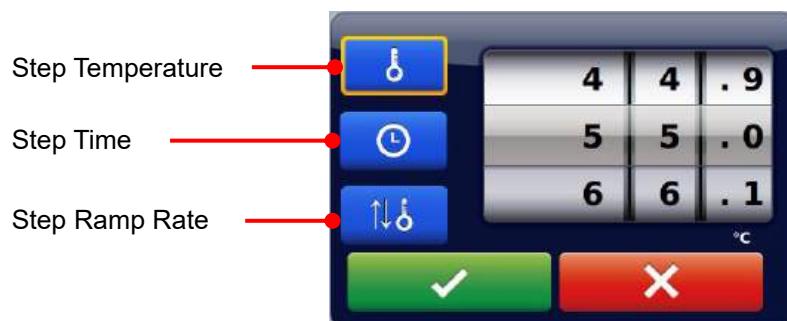

Figure 13. Temperature/Time/Ramp rate setting
1. To select the **Step**, tap on the step segment. The selected **Step** will be highlighted and the **Step Temperature, Time and Ramp Rate**  will be displayed. Tap on  and a spinning wheel will pop up as shown in Figure 13, allowing you to modify the **Step Temperature, Step Time, or Step Ramp Rate**.
If a **Stage** contains more than one **Step** segment, the **Stage Cycle Number**  will appear when you tap on the **Stage** header to highlight it. The **Stage Cycle Number** indicates the total number of times the Stage will repeat itself during the running of the protocol. Tap on  and the **Cycles** spinning wheel will pop up as shown in Figure 13 below, allowing you to modify the **Stage Cycle**